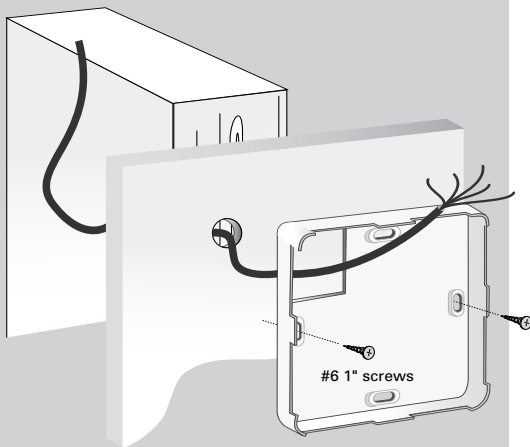

Figure 2: Mounting the Base
3. Mount the base directly to the wall using two #6 1-inch screws. (See **Figure 2.**)